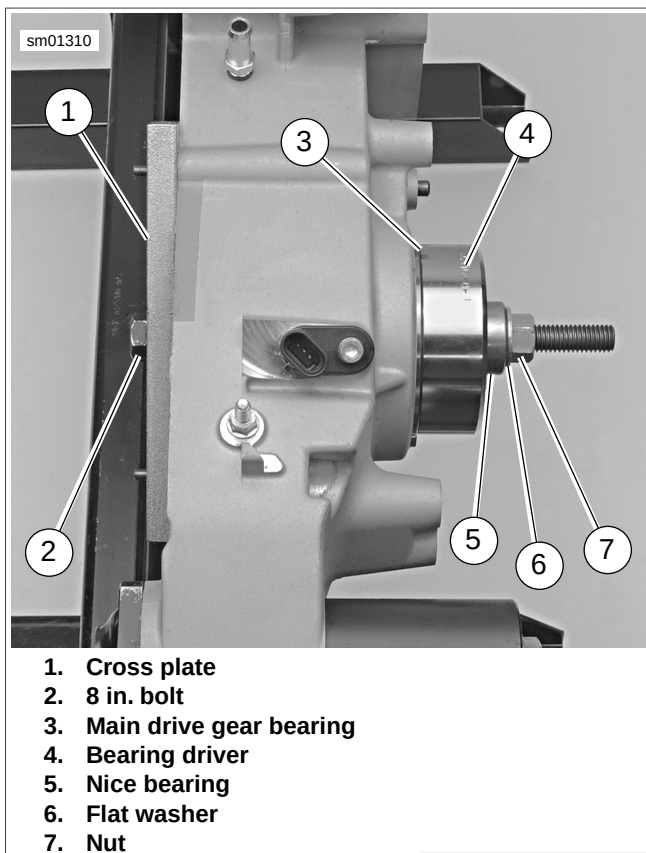

Figure 5-81. Installing Main Drive Gear Bearing: XL Models
- See Figure 5-81. Insert 8 IN. BOLT (Part No. HD-35316-4A) (2) through cross plate (1) and main drive gear bearing bore.
- Place main drive gear bearing (3), BEARING DRIVER (Part No. HD-35316-8) (4), NICE BEARING (5), FLAT WASHER (6) and NUT (7) over end of bolt.